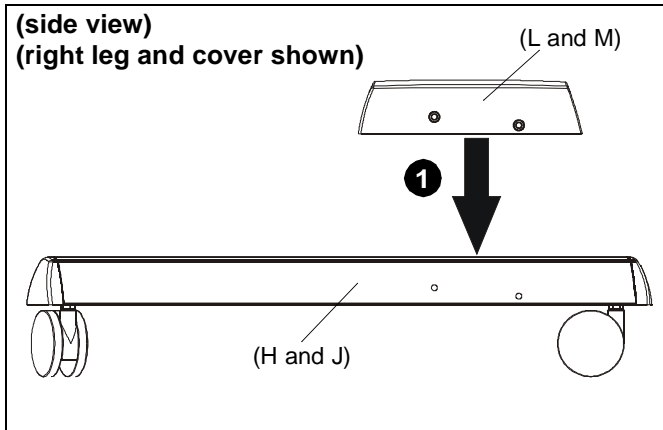

Figure 1
1. Place left and right transition covers (L and M) on corresponding cart legs (H and J), lining up the holes on the covers with the holes on the legs. (See Figure 1)